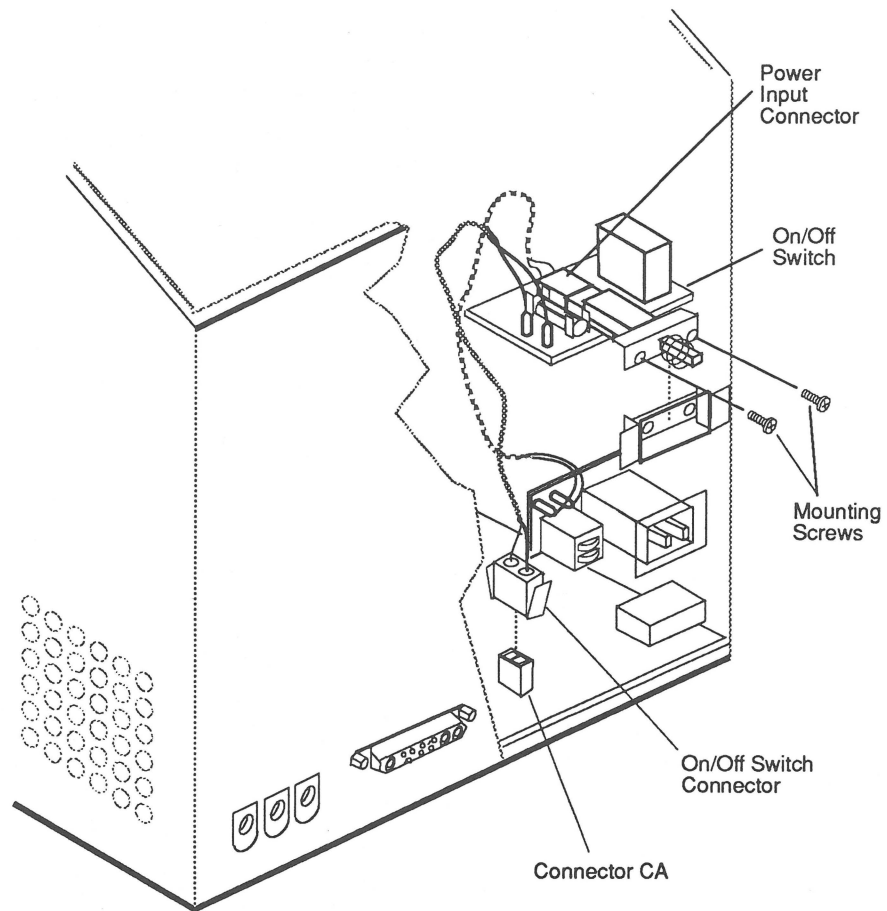

FIGURE 16
1. Replace the on/off switch on the chassis mounting bracket, and install the two mounting screws (**Figure 16**).
2. Connect the power input connector (**Figure 16**) to the connector on the on/off switch board.
3. Connect the 2-wire, on/off switch connector (**Figure 16**) to the connector labelled **CA** on the main deflection board.
4. Replace the plastic knob (**Figure 16**) on the on/off switch.